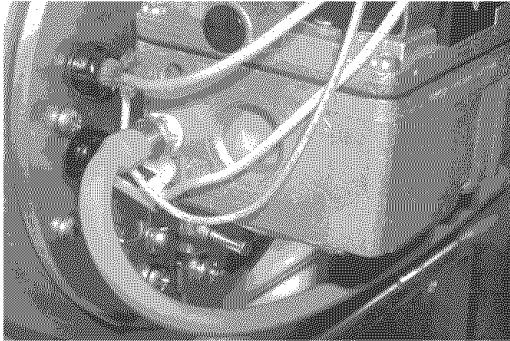

FIGURE 51: Pressure tap
- a. Remove gas valve OUT PRESS TAP plug using 3/16" Allen wrench. Install 1/8 NPT hose barb fitting. See Figure 51.